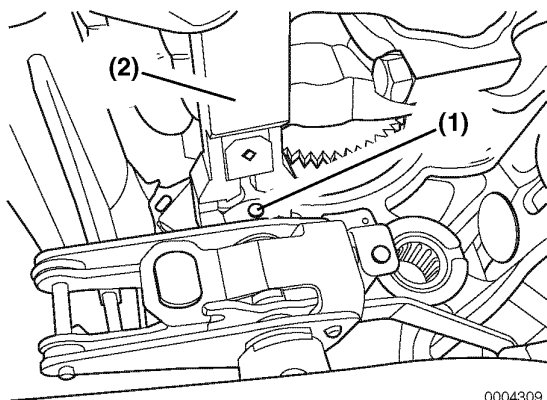

Figure 8-84
3. Remove the tapered pin (**Figure 8-84, (1)**) that fastens the governor lever to the throttle shaft using the special throttle shaft pin removal tool (**Figure 8-84, (2)**). See *Special Service Tools* on page 8-18 for the appropriate tool number.
4. Position the pin removal tool on the throttle shaft as shown (**Figure 8-84**).